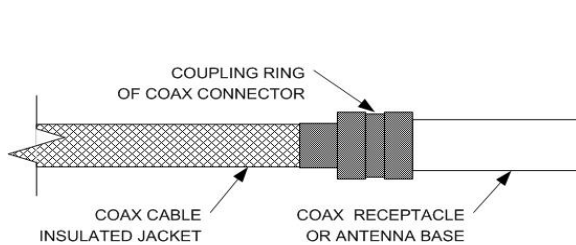

Figure 1
**3.3.2** Begin wrapping the StretchSeal Tape around the connector to be protected, below the coupling ring of the mated coax connector. (see figures 1 & 2) Stretch the tape 25 to 50% to ensure good compression around the connector and coax cable. Remove release film as required.